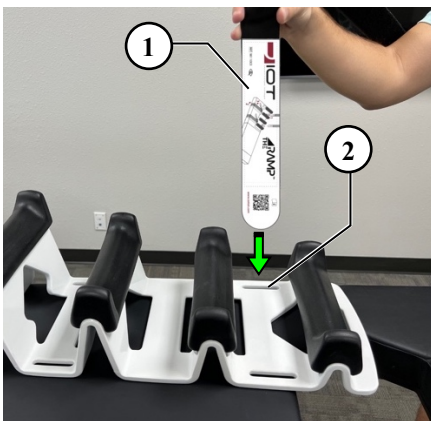

Fig. 5-2: Inserting belt
- ▶ Ensure the belt (1) is oriented so that the white label is facing inwards (medially) as shown in Figures 5-2 and 5-3.
- ▶ Insert the belt (1) vertically downward through the operative side belt slot (2).